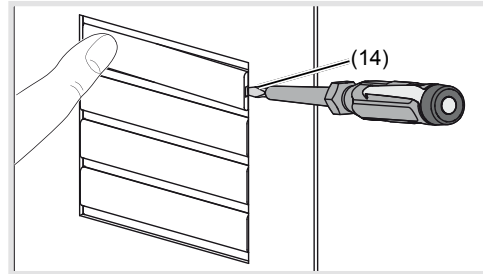

Figure 4: Removing name plate cover
- Keep call push-button pressed on one side. On the opposite side, the lever opening (14) is accessible for a screwdriver.
- Position the screwdriver in the lever opening (14) and release the interlock (Figure 4).